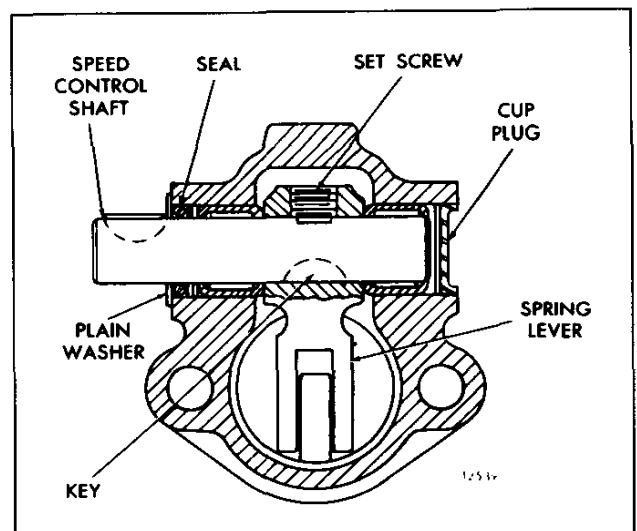

Fig. 4 – Cross Section of Governor Spring Housing and Lever Assembly
- c. On the former spring housing, remove the pipe plug in the top of the spring housing. On the current spring housing, remove one screw and lock washer and remove the spring housing cover and gasket. Then remove the set screw from the spring lever (Fig. 4).